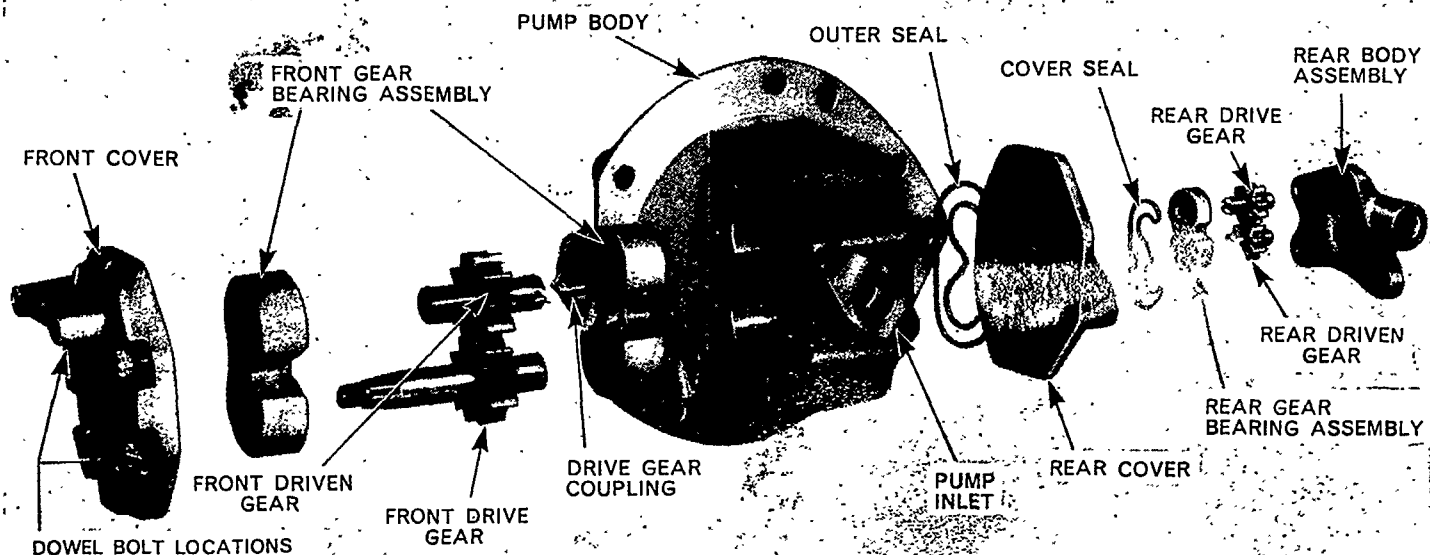

Figure 95
On entering the larger pump the oil fills the spaces between the large gear teeth and is carried around the housing, by the closely fitting gears, Figure 95, to the point where the teeth in the two gears come into mesh. The oil is then thrust out between the teeth and delivered through an outlet port to a passage formed in the pump flange. This passage is connected to a vertical drilling in the rear axle centre housing which leads to the hydraulic lift. The high pressure oil is directed past a spring-loaded relief valve which is set to blow off at a pressure of 2650 p.s.i. (186.3 kg./sq. cm.) and so prevent damage should the pump be overloaded.
An exploded view of the hydraulic pump is shown in Figure 95.
4. Remove the nuts, spring washers and through bolts retaining the two end covers. Note that two of these bolts are dowel bolts retaining the front cover and rear body to the pump body and are machined to very fine limits. These bolts, which are identified by a letter 'D' stamped on their heads, should not be mixed with the other retaining bolts, Figure 95.